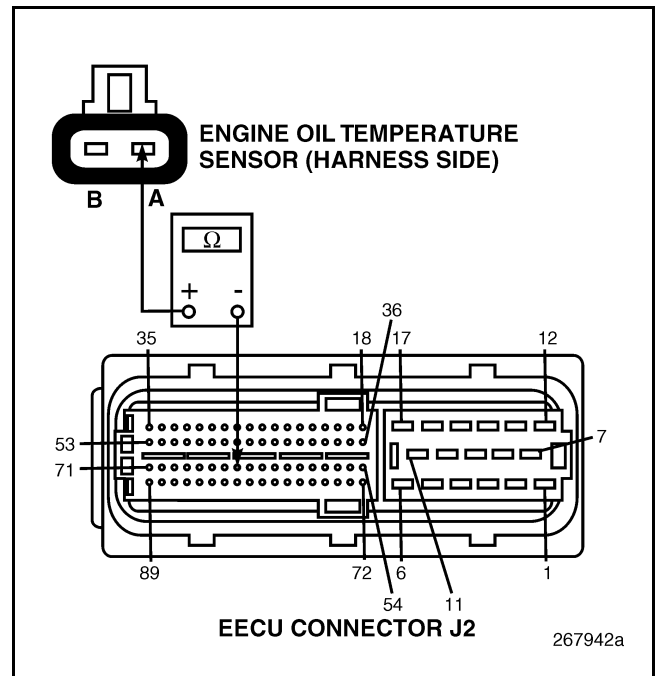

Figure 287
4. Check for continuity between pin A of the EOT Sensor harness connector and EECU harness connector J2 pin 64 (see Figure 287).